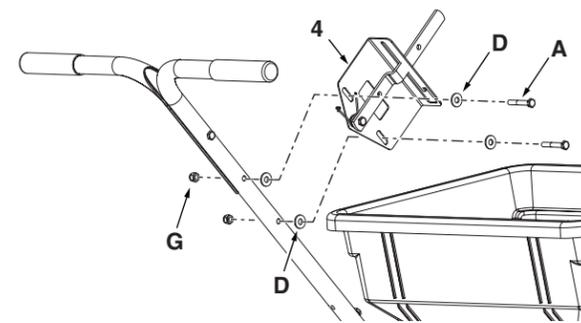

Figure 15
STEP 15: (SEE FIGURE 15)
- Attach the control assembly (4) using two 1/4" - 1-3/4" hex bolts (A), four 5/16" washers (D) and two 1/4" nylock nuts (G). Do not tighten hardware.